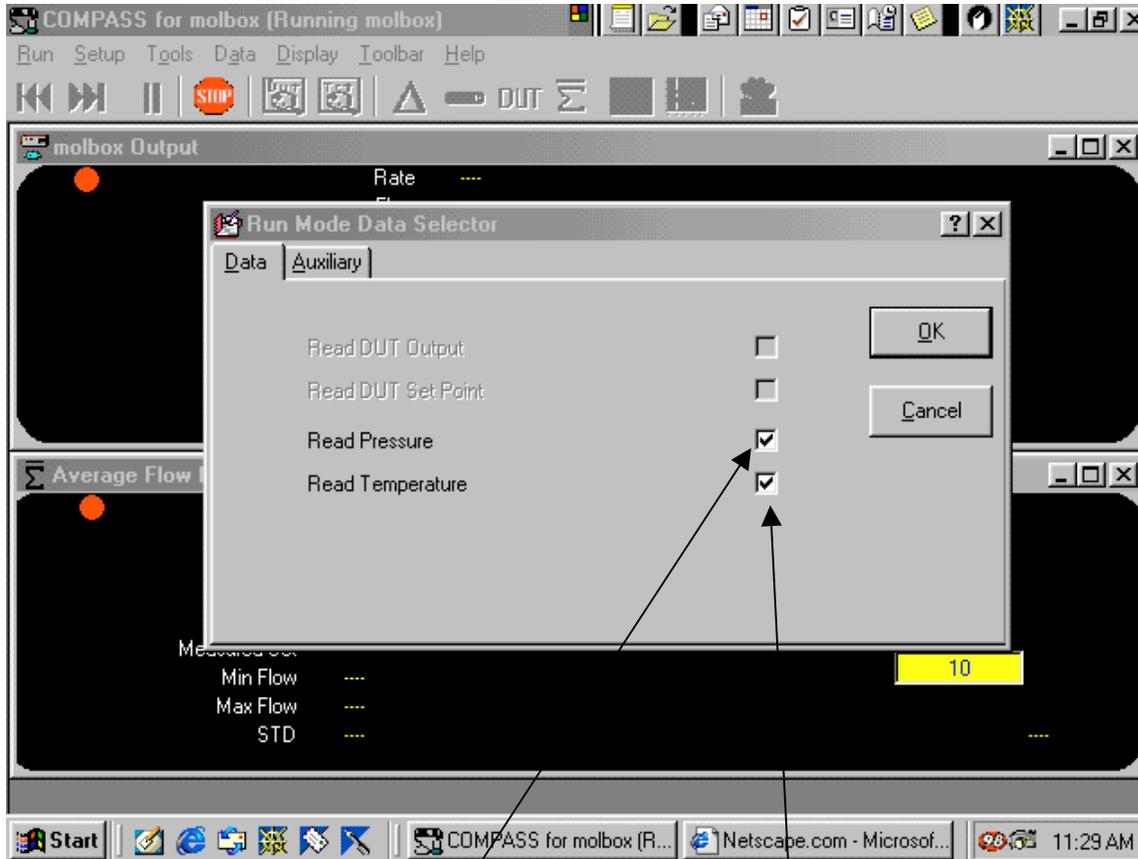

Figure 15 - Select Read Pressure and Read Temperature
11.1.5 Make sure gas is flowing. Click on "**Run**" and select "**Run Molbox**" from the pull down menu. Select "**Read Pressure**" and "**Read Temperature**" and Click on "**OK**" (see figure 15).
- 11.3.2 Click on “**Run**” and select “**Run Molbox**” from the pull down menu. Check “**Read Pressure**” and “**Read Temperature**” and Click on “**OK**” (see figure 15).